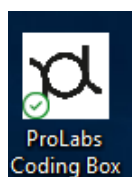

Figure 4 – File Icon
- 6) Locate the “ProLabs Coding Box” shortcut (Figure 4) on your desktop (or location where it was saved) and double click.